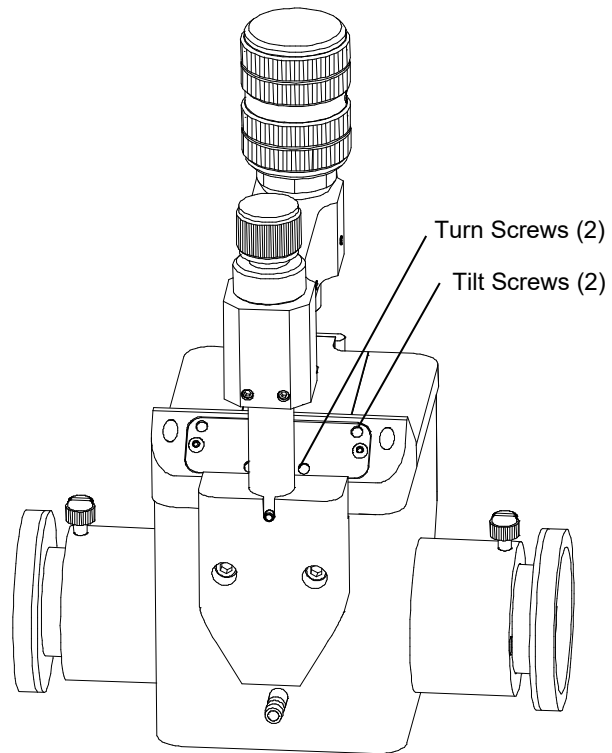

Figure 6 • Adjusting the Mirrors
- Using the supplied 3/32" ball driver, adjust the tilt and turn set screws found on the back of the pressure applicator mounting (Figure 6) optimizing the energy at one before moving to the next.